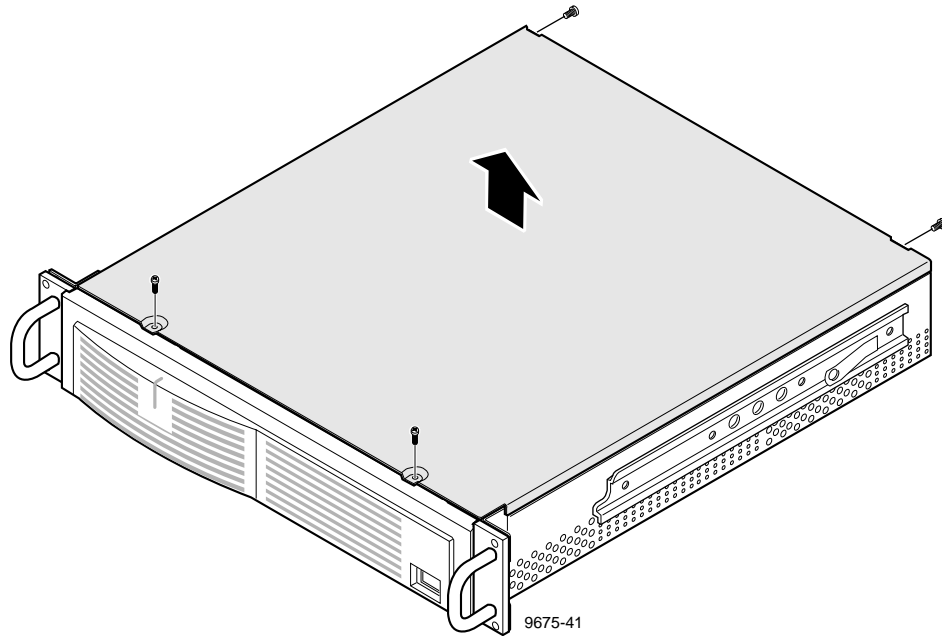

Figure 6-30. PAC208/216 Cover Removal
3. Use the Torx tool with the T15 tip to remove the screws which secure the top cover (Figure 6-30).